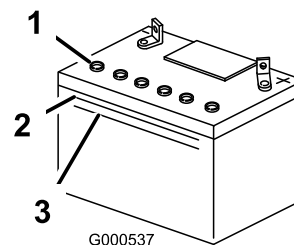

Figure 35
1. Look at the side of the battery. The electrolyte must be up to the **upper** line (Figure 35). Do not allow the electrolyte to fall below the Lower line (Figure 35).
3. Remove the vent caps from the battery (Figure 35).
4. Slowly pour distilled water into each battery cell until the electrolyte level is up to the Upper line (Figure 35) on the battery case.
5. Wait five to ten minutes after filling the battery cells. Add distilled water, if necessary, until the electrolyte level is up to the Upper line (Figure 35) on the battery case.